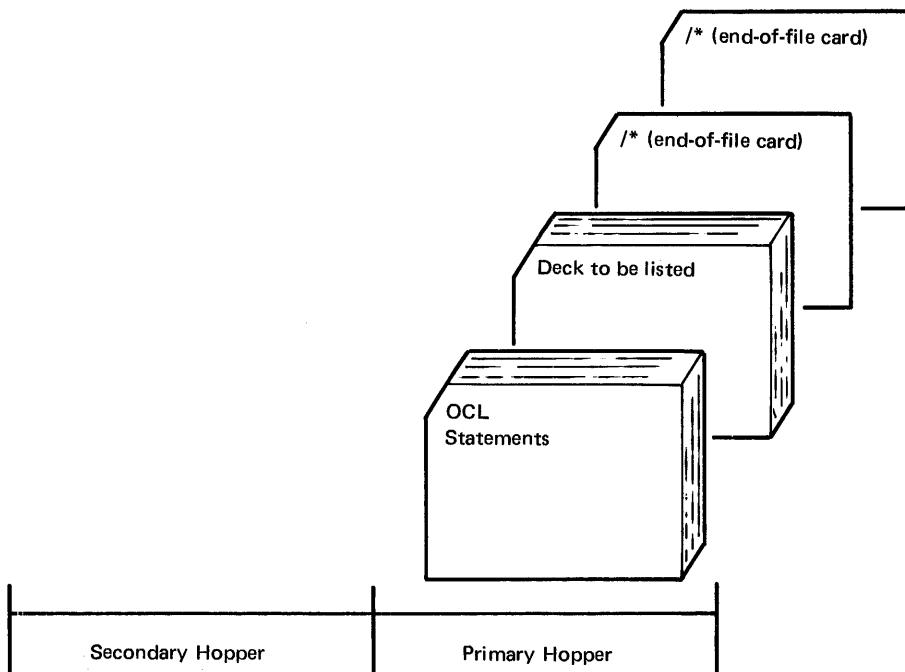

Figure 24. Input Deck for List Program.
3. Place OCL statements and cards to be listed in primary hopper of MFCU (Figure 24). Load cards face down, top edge to the left. Be sure two end-of-file (*/\**) cards are at the end of the deck to be listed.